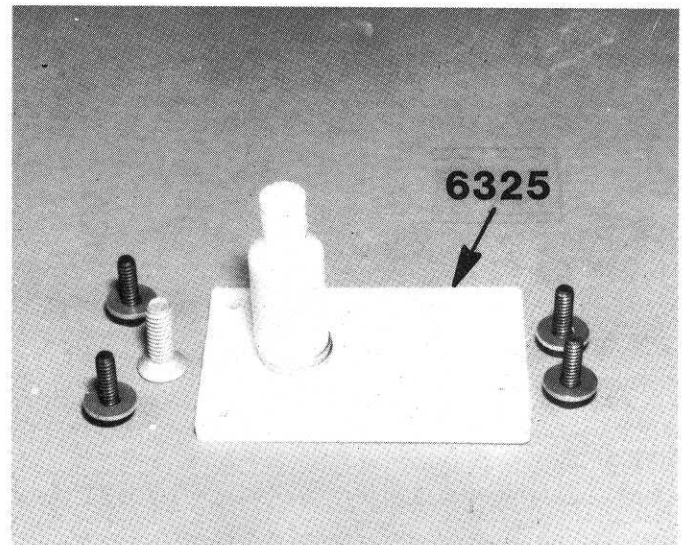

Fig. 77
□ **Fig. 77** Take the #6325 transmission brace and install the rear body mount.